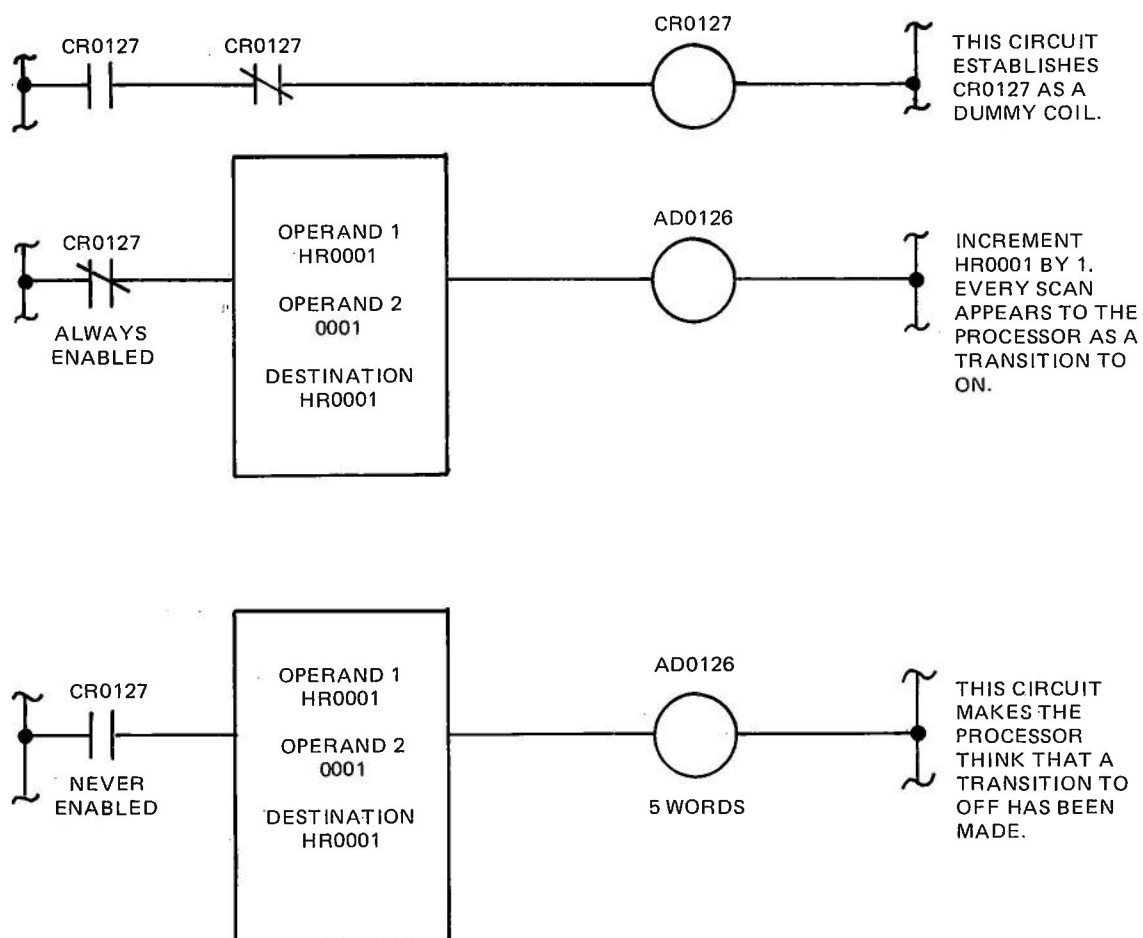

Figure 6-5. Every Scan Operation
For example, in the case of counters, shift registers and drum controllers, transitional operation is a necessary and desired part of the function. However, in the case of the arithmetic and conversion function, this may or may not be desirable. If the processor does not have a Continuous Select (CS) function, scanning can be made to occur on a continuous (every scan) basis by using the format illustrated in Figure 6-5.
This form requires only that the second coil be that of a transitional function. In the example shown in Figure 6-5, UC0126 could be used. The assignment of operand and designation is unimportant, since the function is not used. (See paragraph 6-1 for a discussion on the HRRU and register manipulation.)